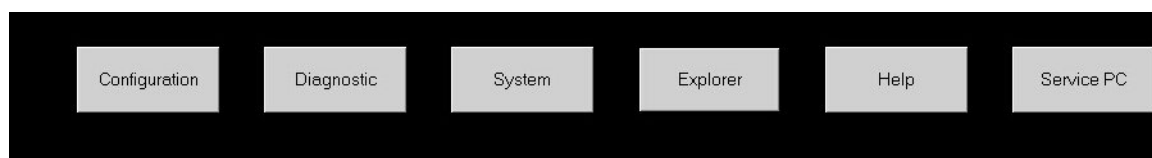

Fig. 6
- Select "Configuration" and subsequently "License" in the service main menu bar (Fig. 6).